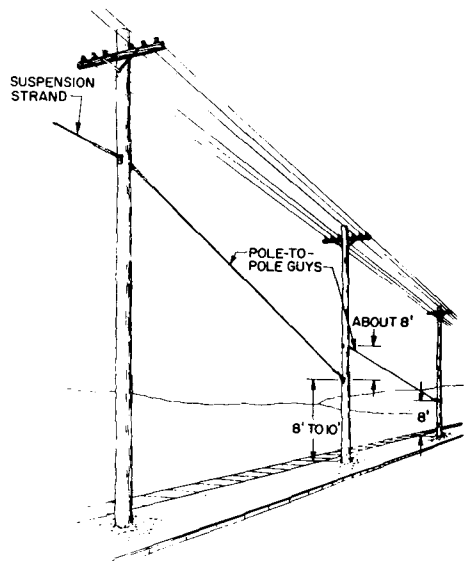

Fig. 12—Pole-to-Pole Guy
5.01 Pole-to-pole guys should be used only where necessary due to right-of-way or other conditions. Determine the size of pole-to-pole guys in the manner described for guy-to-stub guys. Where two or more pole-to-pole guys are placed in adjacent spans, the separation between the lower end of the first guy and the upper end of the second guy should not exceed 8 feet. The lowest attachment should be about 8 feet from the ground. A pole-to-pole guy is illustrated in Fig. 12.